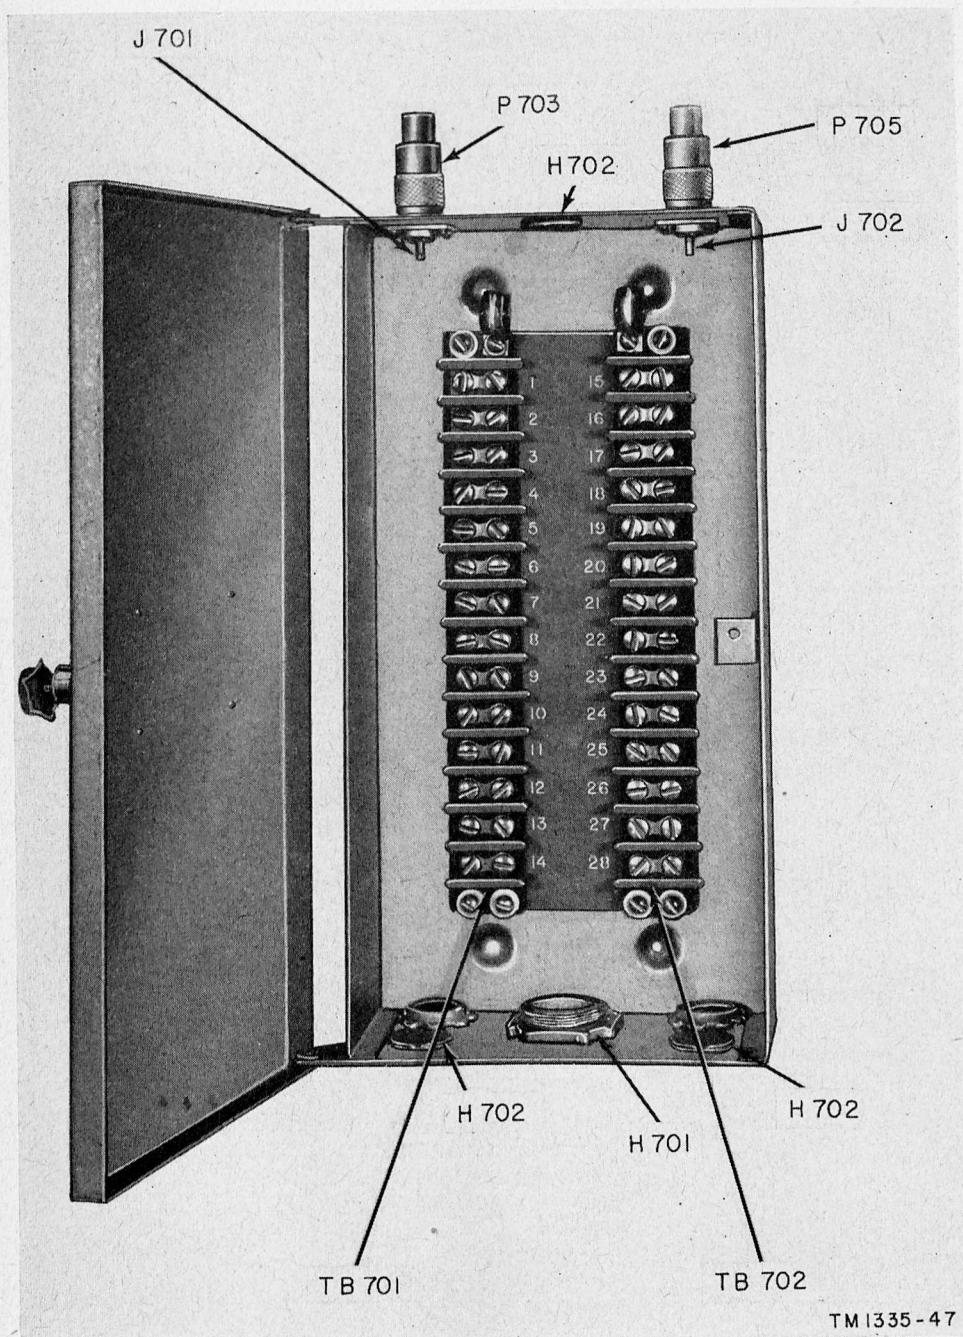

Figure 46. Junction box, showing terminal boards and cable clamps.
- (1) Connect the first 14 conductors of cable W704 to terminal board TB701 (fig. 46).
- (2) Connect conductors 15 through 19 to terminal board TB702.
- (3) Connect cable W709 to trigger jack J701.
- (4) Connect cable W707 to video jack J702.
- (5) Connect cable W706 to video jack J702.
- (6) Connect cable W705 to trigger jack J701.